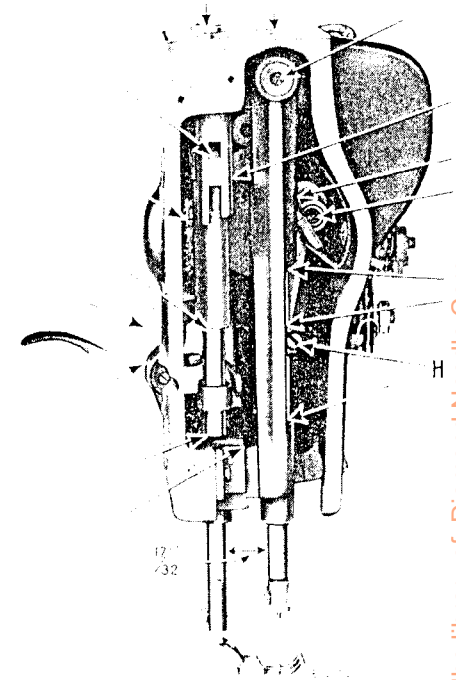

Fig. 5. End View of Machine. Showing Oiling Points
In case the needle bar is not correctly set, loosen the needle bar connecting stud pinch screw (H, Fig. 5) and place the needle bar in the correct position as directed above, then retighten the screw (H).